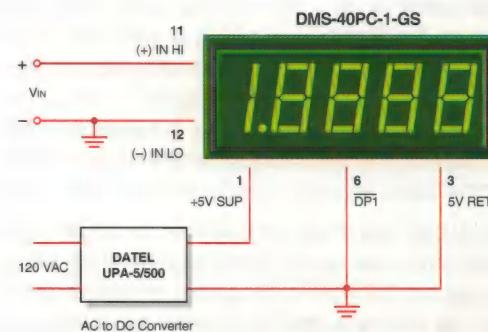

Figure 2. Single-Ended Input Configuration
1. Single-Ended Input Configurations: The DMS-40PC can measure single-ended signals with either positive or negative polarities. True single-ended inputs always have one of their two terminals at the same potential as the DMS-40PC's 5V RETURN (pin 3). Single-ended inputs are usually derived from power supplies that have a common ground with the meter's +5V supply. Figure 2 shows the recommended connections to be used with this type of input. Pin 12, (–) INPUT LO, is shown directly tied to ground. This connection to ground must be a separate wire or pc-board trace originating at V_N 's negative terminal. This hook-up will normally eliminate display instabilities and errors caused by ground-loop currents which can occur if (–) INPUT LO is tied to ground at, or near, pin 3.